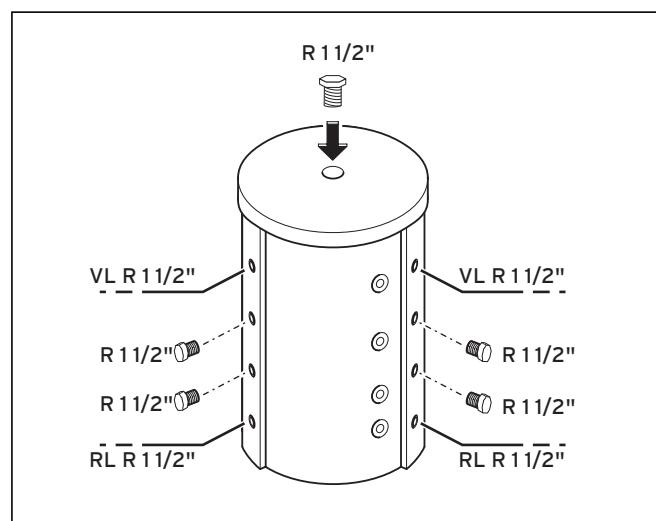
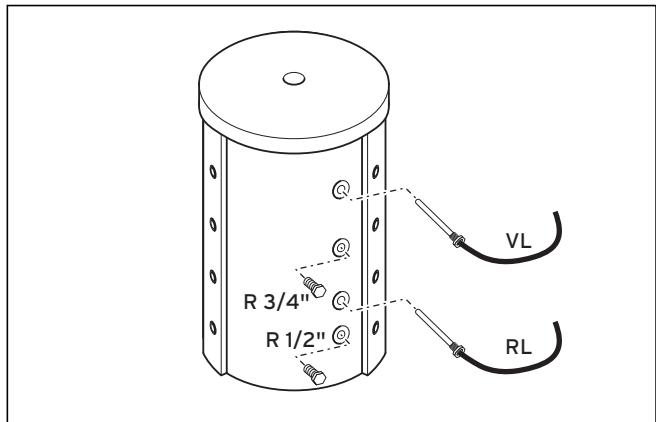

Fig. 5.1 Water connections and plugs
Fig. 5.2 Temperature sensor connections and plugs
- Blank off the unused connections with the appropriate plugs, as shown in Fig. 5.1 and Fig. 5.2.
- Connect the water connections as shown in Fig. 5.1.